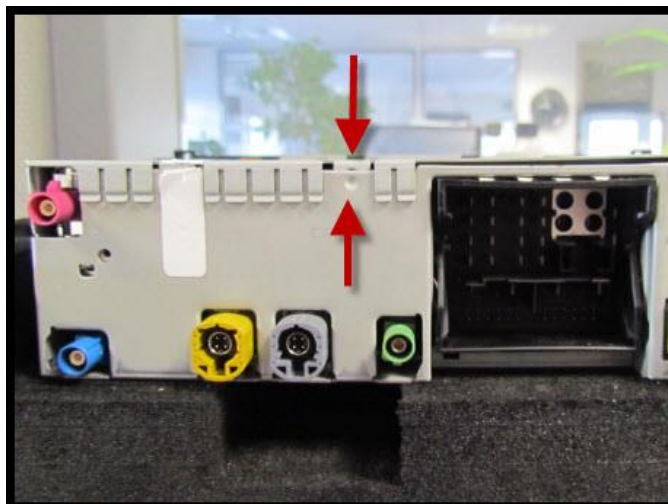

Figure 14. Place the new warranty seal over the location indicated by the red arrows.
17. Place the new warranty seal from the retrofit kit next to the original warranty seal (Figure 14).